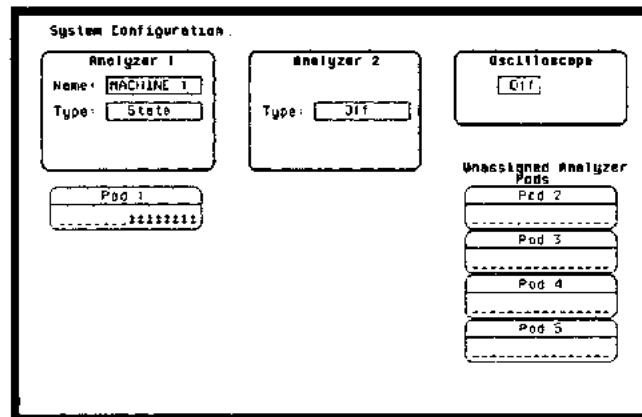

Figure 3-5. System Configuration for Data Test 1
3. Assign the pod under test to Analyzer 1 in the System Configuration menu as in figure 3-5. Refer to steps a through c if you are unfamiliar with menus.
- Assign the pod under test to **Analyzer 1** in the **System Configuration** as in the previous test figure 3-5.